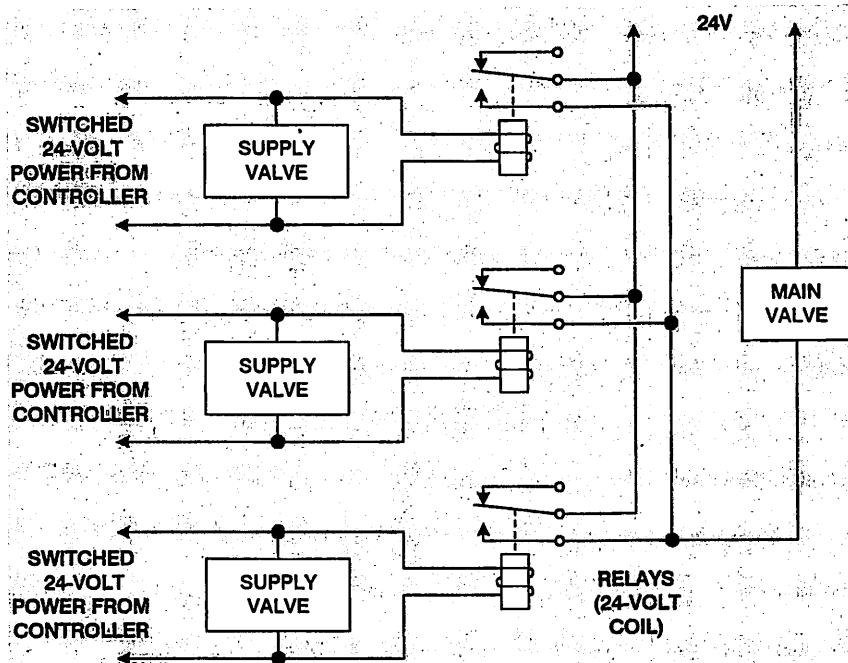

FIG. 2—USING RELAYS AND SIMPLE OR LOGIC, the main valve will switch on when any supply valve is energized.
**A** We don't know the particulars of your sprinkler system, but we can tell you how to achieve a logical OR relation between several control signals. Use relays with their normally-open contacts connected in parallel as shown in Fig. 2. To avoid drawing excessive current, use small 24-volt relays; those with 650-ohm coils are a good choice, and choose AC or DC relays as appropriate.